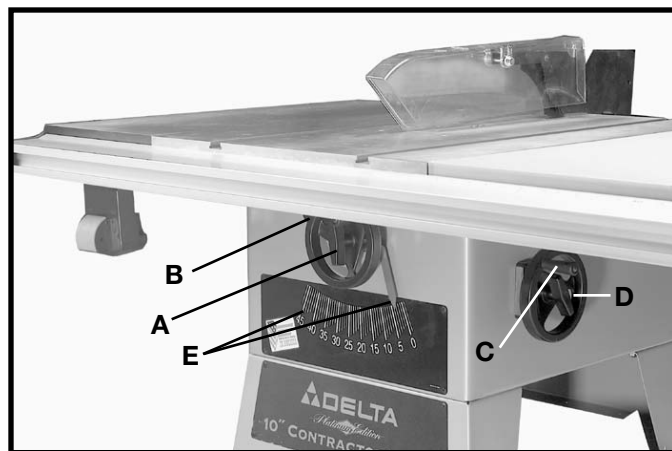

Fig. 98
To raise the saw blade, loosen lock knob (A) Fig. 98, and turn the blade raising handwheel (B) clockwise. When the blade is at the desired height, tighten lock knob (A).
To lower the blade, loosen lock knob (A) Fig. 98, and turn the handwheel (B) counterclockwise. **NOTE:** One full turn of the handwheel will change blade height approximately 1/4".
To tilt the saw blade for bevel cutting, loosen lock knob (D) Fig. 98, and turn the tilting handwheel (C). When the desired blade angle as shown on scale and pointer (E), tighten lock knob (D).